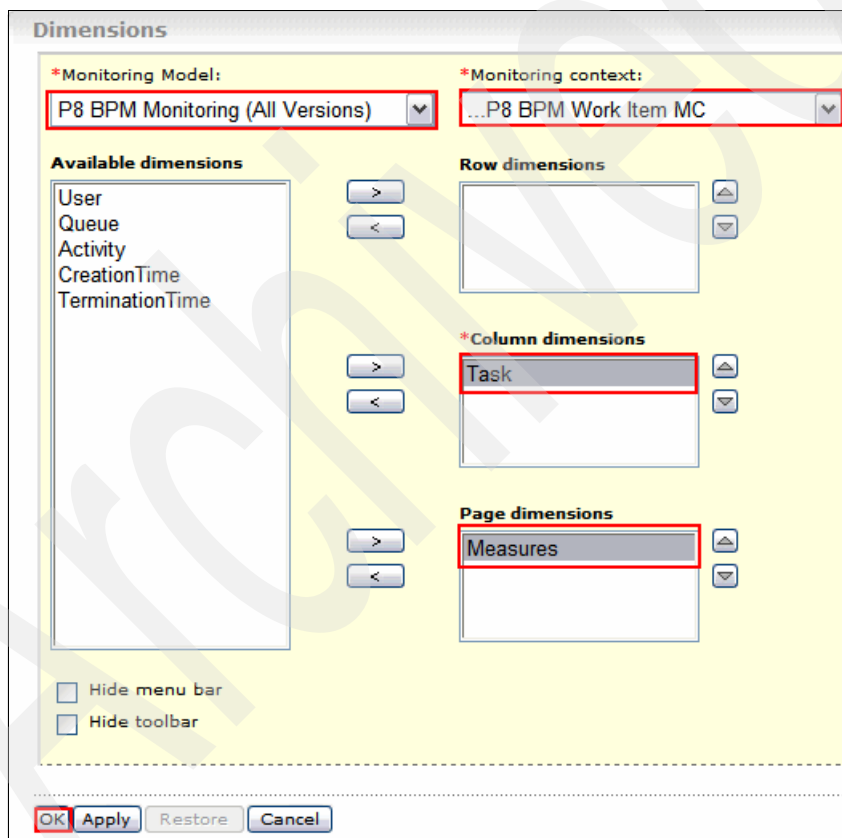

Figure 7-135 Dimensions view
- c. Under Dimensions (Figure 7-135):